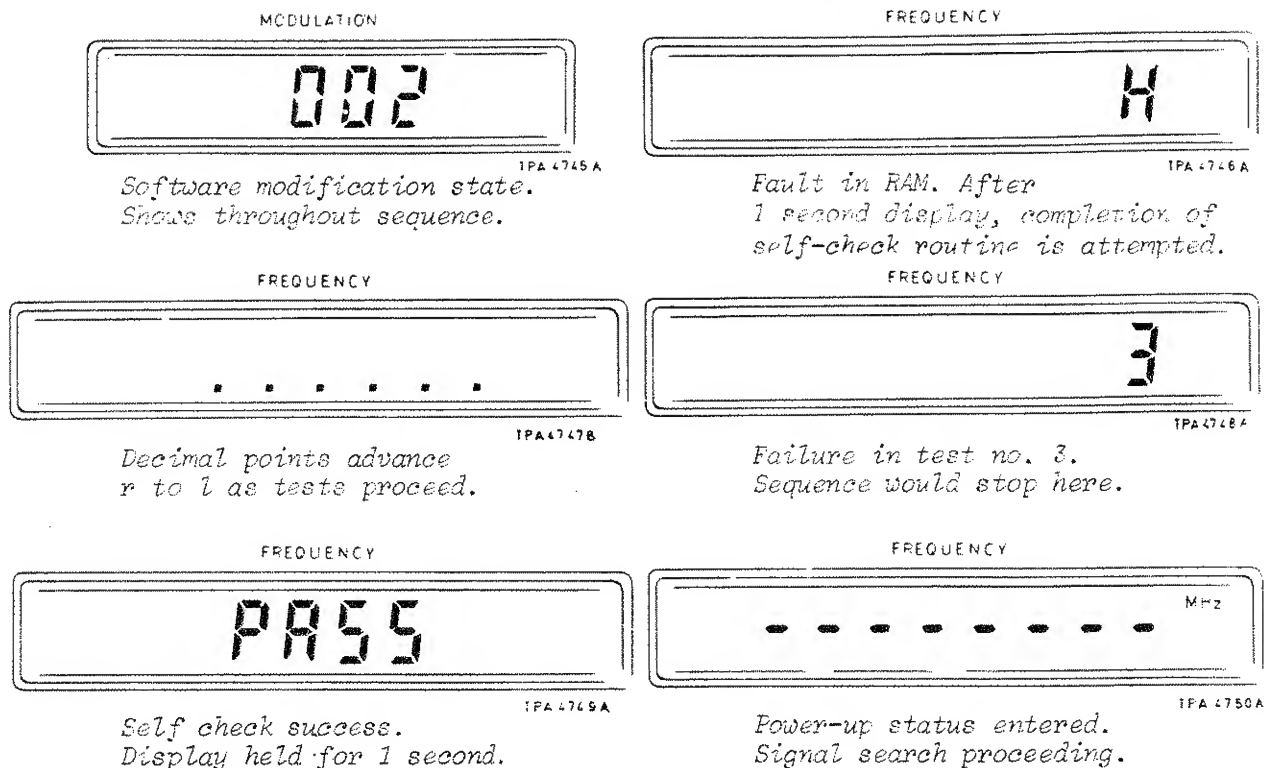

Fig. 6 Normal and possible fault condition displays occurring during power-up sequence
10. After the 2305 has been properly installed with connection made to a suitable mains supply, switch on. The instrument will now enter a series of self checks and its progress will be monitored on the FREQUENCY display in the way shown in Fig. 6. A fault appearing during memory checks will result in a brief display of a letter H (RAM fault) or P (PROM fault). Such a fault would probably also appear as an operating malfunction and as such would impede progress in the six sets of measurements which now begin on the analogue measuring circuits and are monitored by the gradual advance of the decimal points across the display. When all six sets are complete, nine derived test results are calculated in sequence and each result is compared with a result stored from the same test when made at time of manufacture. A test is failed if the current result differs by more than 5% from the stored reference and will cause the sequence to stop at that point with a display of the test number concerned. If all tests are satisfactory the 2305 will display PASS and then move into its power-up status. This may be the standard power-up status of the instrument as supplied, or it may be any set of operating conditions introduced by both first and second keyboard functions and entered into STORE 0. 'Standard' power-up status confers the following control settings which are considered to be those most commonly required :